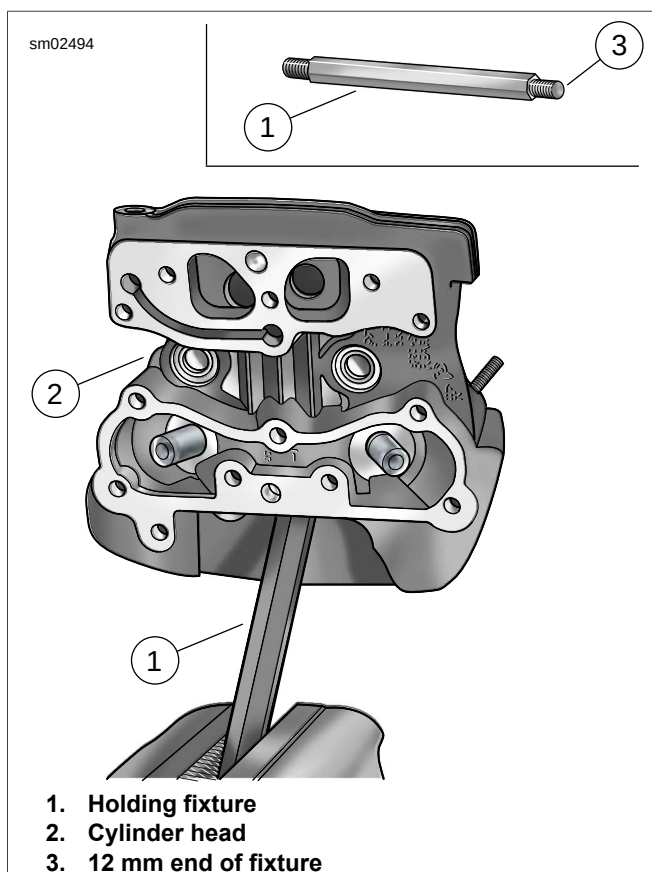

Figure 3-42. Cylinder Head Holding Fixture
2. See Figure 3-42. Secure cylinder head for service.
- a. Thread 12 mm end of CYLINDER HEAD HOLDING FIXTURE (Part No. HD-39786) (1) into cylinder head (2) spark plug hole.